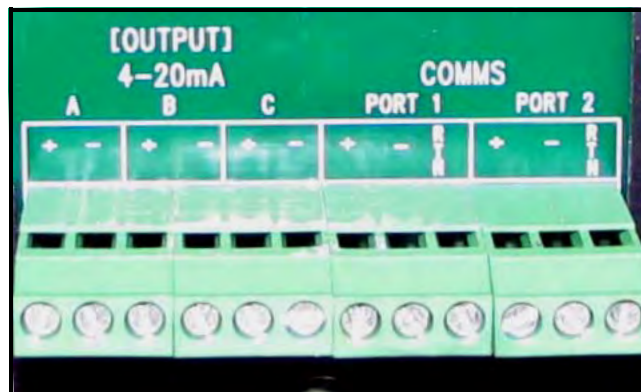

Figure 28: Input/Output Connections
- For operation on RS-232, connect RS-232(TXD) to (+), RS-232(RXD) to (–), and RS-232(GND) to RTN (see *Figure 28* below).